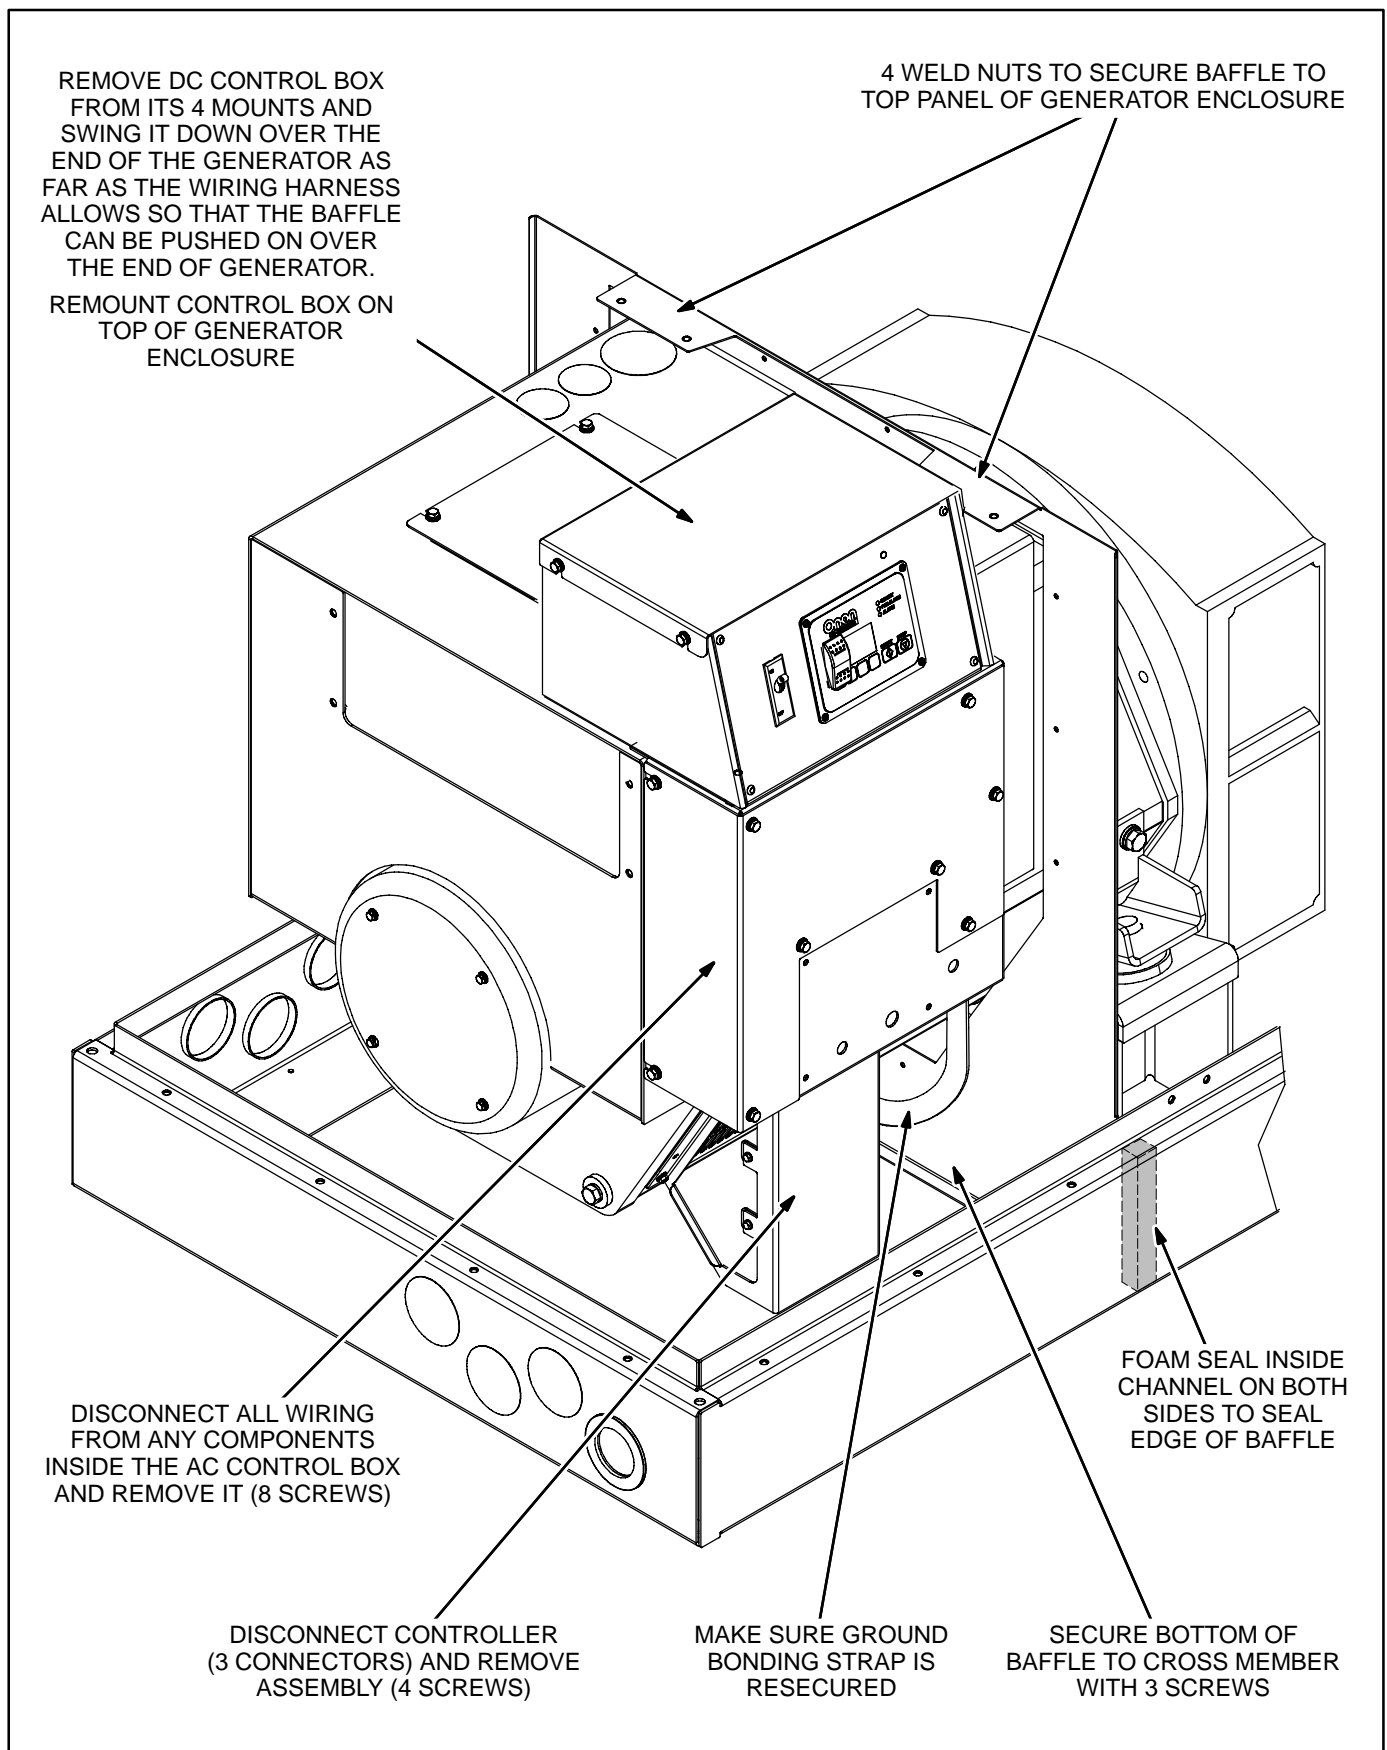

FIGURE 6-11. COMPONENTS TO BE MOVED OUT OF WAY TO INSTALL AIR BAFFLE
When removing a generator it will be necessary to remove the sound shield if the genset is so equipped. The internal air baffle fits closely around the generator making it necessary to move components out of the way in order to push the baffle on or off down the length of the generator (Figure 6-11).
2. Push the air baffle down the length of the generator up to the skid crossmember. The weld nut tabs along the top edge of the baffle must point as shown in Figure 6-11. Secure the baffle to the crossmember with 3 screws.